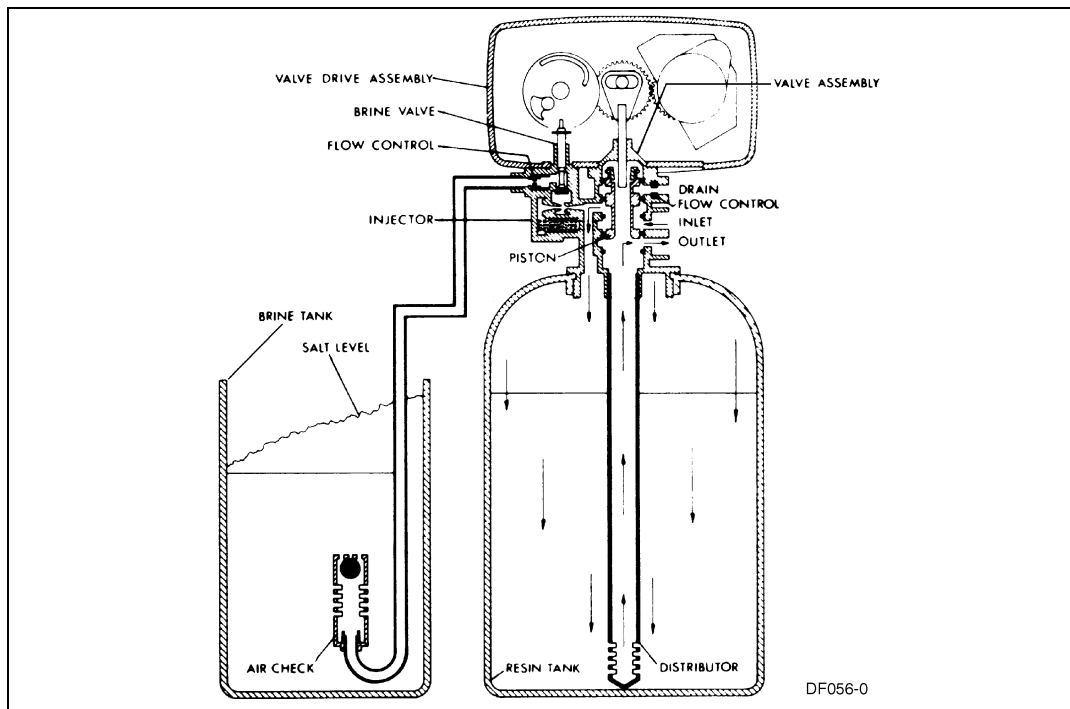

Figure 4: Service Position
1. I position. See *Figure 4, page 10*.
- Same as *Figure 4, page 10* with standard piston (white end plug) or filter piston (black end plug).